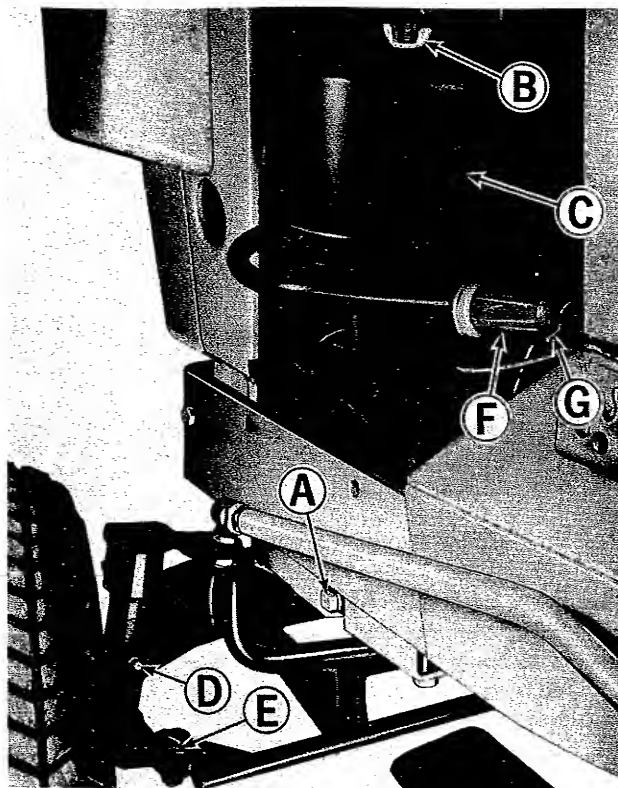

Figure 19. Left front of tractor.
2. See figure 19. Remove the drain plug (A) from the bot-
1. See figure 19. Remove the wing nut (B) and cover (C) from the air cleaner unit.
5. See figure 19. Replace the air cleaner cover (C) and fasten it securely with wing nut (B).
Left Spindle	Figure 19, Item D
Left Tie Rod End	Figure 19, Item E
1. See figure 19. Remove wing nut (B) and cover (C) from the air cleaner.
7. See figure 19. Replace cover (C) and wing nut (B) and tighten securely.
**REPLACE FUEL FILTER:** See figure 19. Every 100 hours or more often under dirty field conditions, the fuel filter (F) should be replaced. **CAUTION: DO NOT REMOVE THE FUEL FILTER WHEN THE ENGINE IS HOT, AS SPILLED GASOLINE MAY IGNITE. USE CARE WHEN REMOVING AND INSTALLING CLAMPS (G), NOT TO REMOVE THEM ANY MORE THAN NECESSARY AS THEY MAY TAKE A SET AND NOT HOLD THE HOSE TO THE FILTER PROPERLY.**